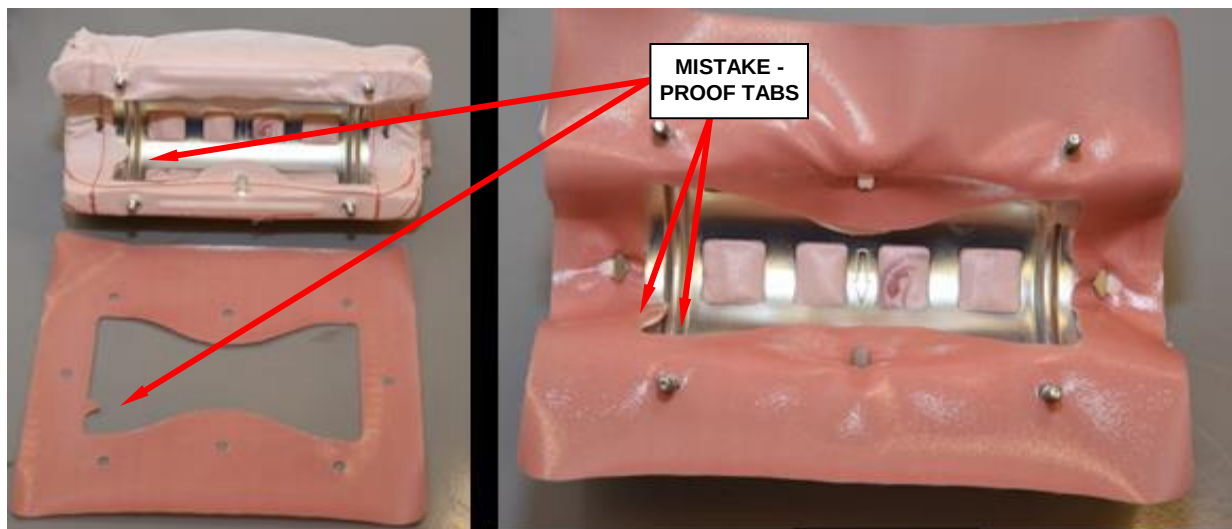

Figure 63 – Fabric Gasket to Cushion
- h. Place the fabric gasket, glossy side up, onto cushion. Mistake-proof tab should be aligned to the tab on the cushion (Figure 63).